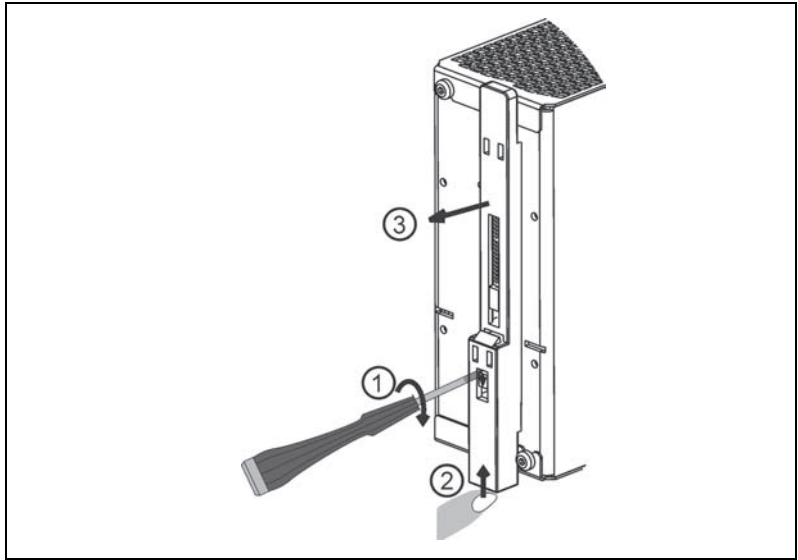

Figure 5. Removing the Plastic Slider
2. Remove the plastic lock mechanism with a flathead screwdriver to move the lock downward while at the same time pushing the plastic slider upwards. Detach the plastic slider, as shown in Figure 5.